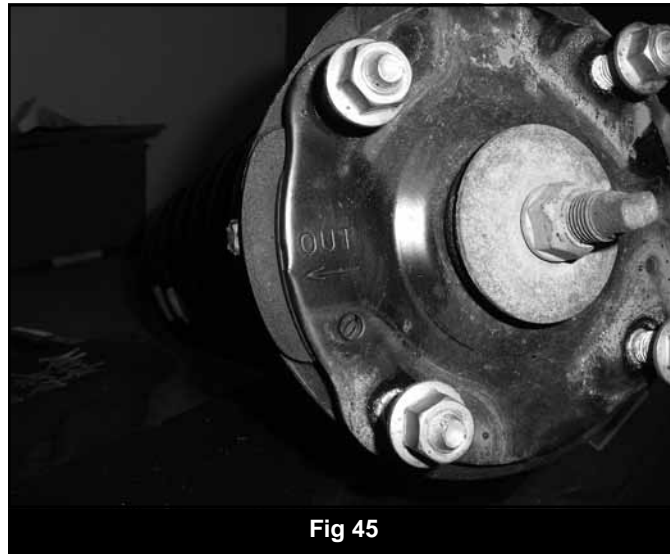

Fig 45
62. Loosely install the struts to the factory upper mounts with the original hardware. Leave nuts loose. Note the position indicator on the top strut plate (Fig 45).